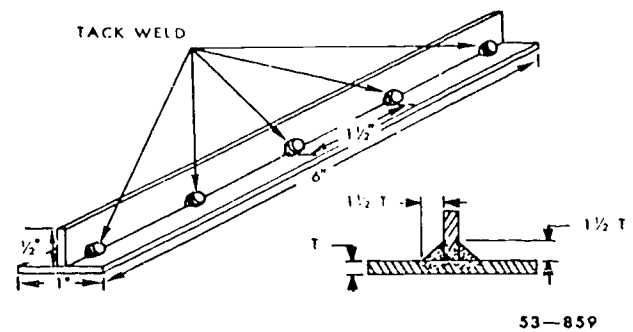

Figure 2-31. Welding Tee joints.
**Setup and tack welding.** To space, position the vertical sheet approximately  $\frac{1}{32}$  inch above the horizontal sheet to permit easier fusion into the root of the joint without excessive heating. Figure 2-31 illustrates the proper spacing of tack welds and gives other dimensions. The tack welds must be rigid and small enough to permit the metal to fuse easily. Do not space the tack welds more than  $1\frac{1}{2}$  inches apart. If the joint is to be welded on both sides of the vertical sheet, make the tack welds alternately on both sides of the sheet. Tack welding in this way helps to maintain the alignment of the vertical sheet.